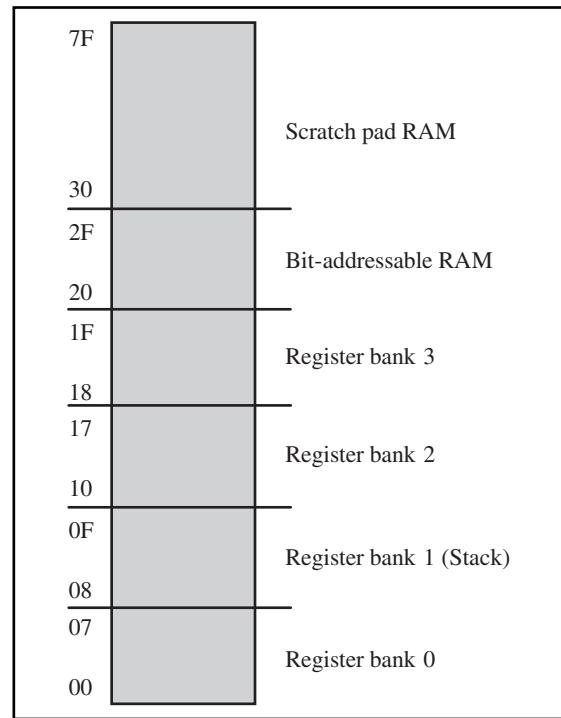

Figure 5. RAM Allocation in the 8051
3. A total of 80 bytes from locations 30H to 7FH are used for read and write storage, or what is normally called a *scratch pad*. These 80 locations of RAM are widely used for the purpose of storing data and parameters by 8051 programmers. See Figure 5.